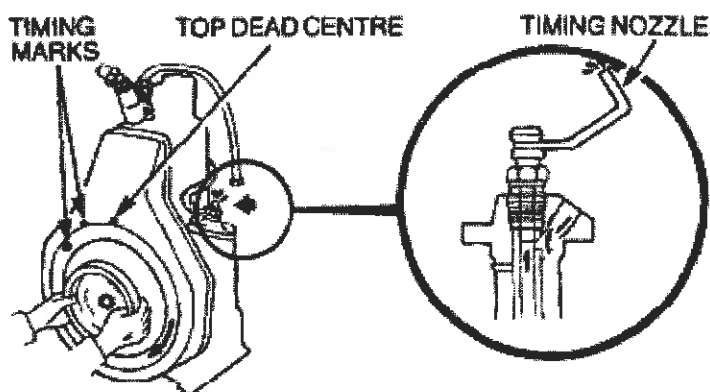

Figure 12 Injection Timing
- k. Rotate the engine by hand in a clockwise direction to bring the piston onto the compression stroke. At this stage fuel should be visible at the injection timing nozzle (Figure 12).